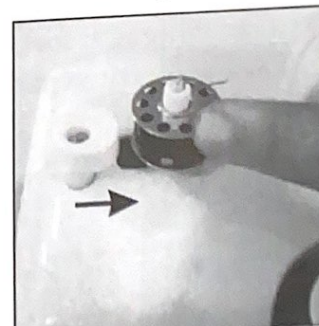

Fig.16
7. Push bobbin away from bobbin winder stop, take bobbin off the pin and cut the thread. (Fig.16)